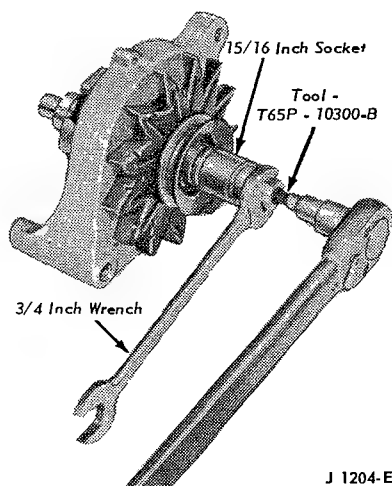

FIG. 13 Pulley Removal
9. Remove the drive pulley nut with the tool shown in Figure 13; then, pull the lock washer, pulley, fan, fan spacer, rotor and rotor stop from the rotor shaft.
5. Position the front housing, fan, spacer, fan, pulley and lock washer on the drive shaft and install the retaining nut. Tighten the retaining nut with the tool shown in Figure 13 to the specified torque.